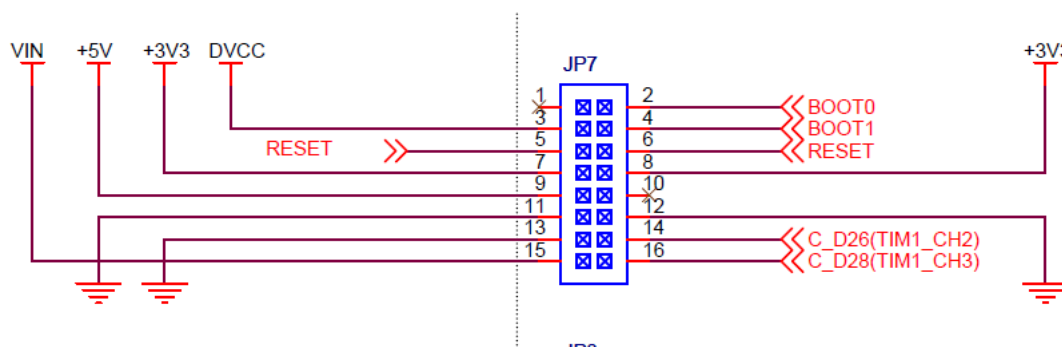

Figure 3-5 Embedded Pi extended custom interfaces (right side of the dotted line)
- 3) Connect the ISP interface on Embedded Pi with your PC (or Raspberry Pi) according to the instruction of the ISP tool. Figure 3-5 shows the pins of the ISP interface on Embedded Pi. When using a PC to program Embedded Pi, an RS232 voltage conversion chip is needed between to convert the TTL voltage level of Embedded Pi to the RS232 voltage level of PC.